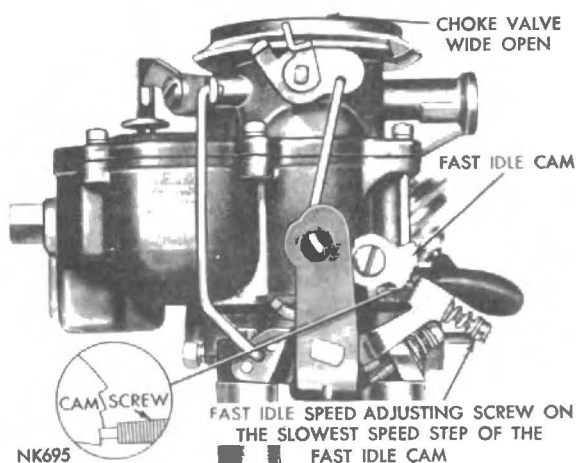

Fig. 17 Fast Idle Speed Adjustment (on the vehicle)
(1) With the engine running and the transmission in the neutral position, open the throttle slightly.
(2) Close the choke valve about 20 degrees then allow the throttle to close. Return the choke valve to the open position.
(3) The fast idle speed adjusting screw should be contacting the slowest speed step on the fast idle cam, as shown in (Fig. 17).